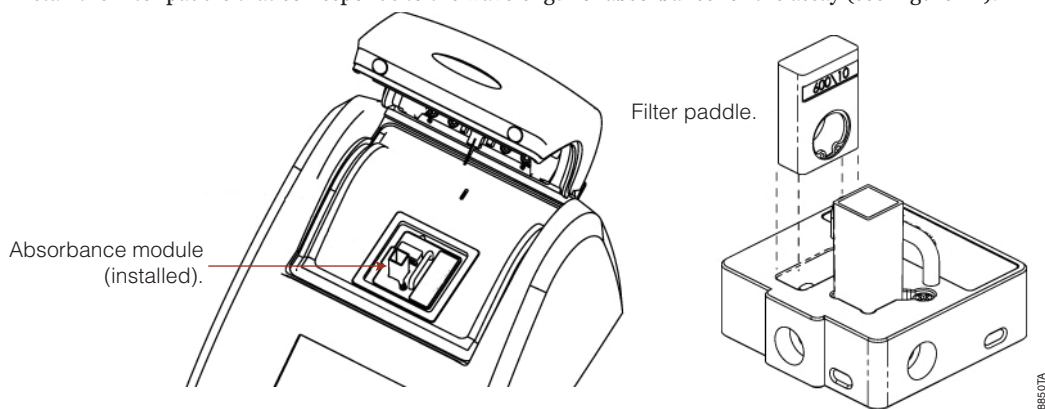

Figure 12. Filter Paddle Installation.
3. Press down to lock the Absorbance Module in place (see Figure 12).
6. Install the filter paddle that corresponds to the wavelength of absorbance for the assay (see Figure 12).